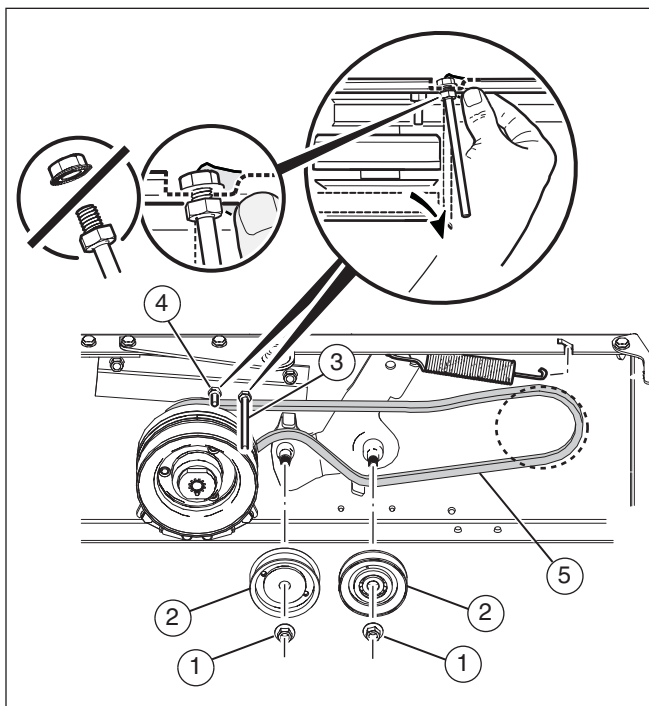

Figure 33
3. Remove the nuts (1) and idler pulleys (2) (see **Figure 33**).
4. Loosen the belt guides (3) and (4) from the stack pulley.
5. Remove the motion drive belt (5) from the drive pulley and stack pulley.